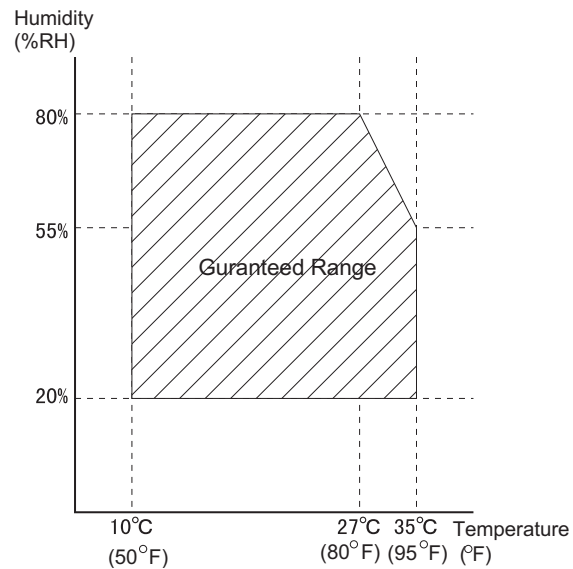

Figure 1-6. Environmental Condition
*3:Refer to Figure1-6 for Environmental Condition.